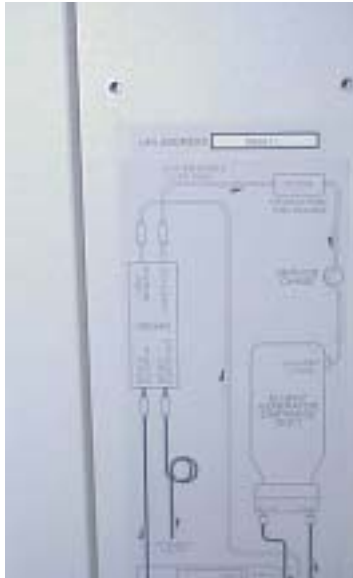

Figure 5
- B. Install the Plumbing Schematic Door Label (P/N 060599, see Figure 2, item 1) directly on top of the existing label. See Figure 5.